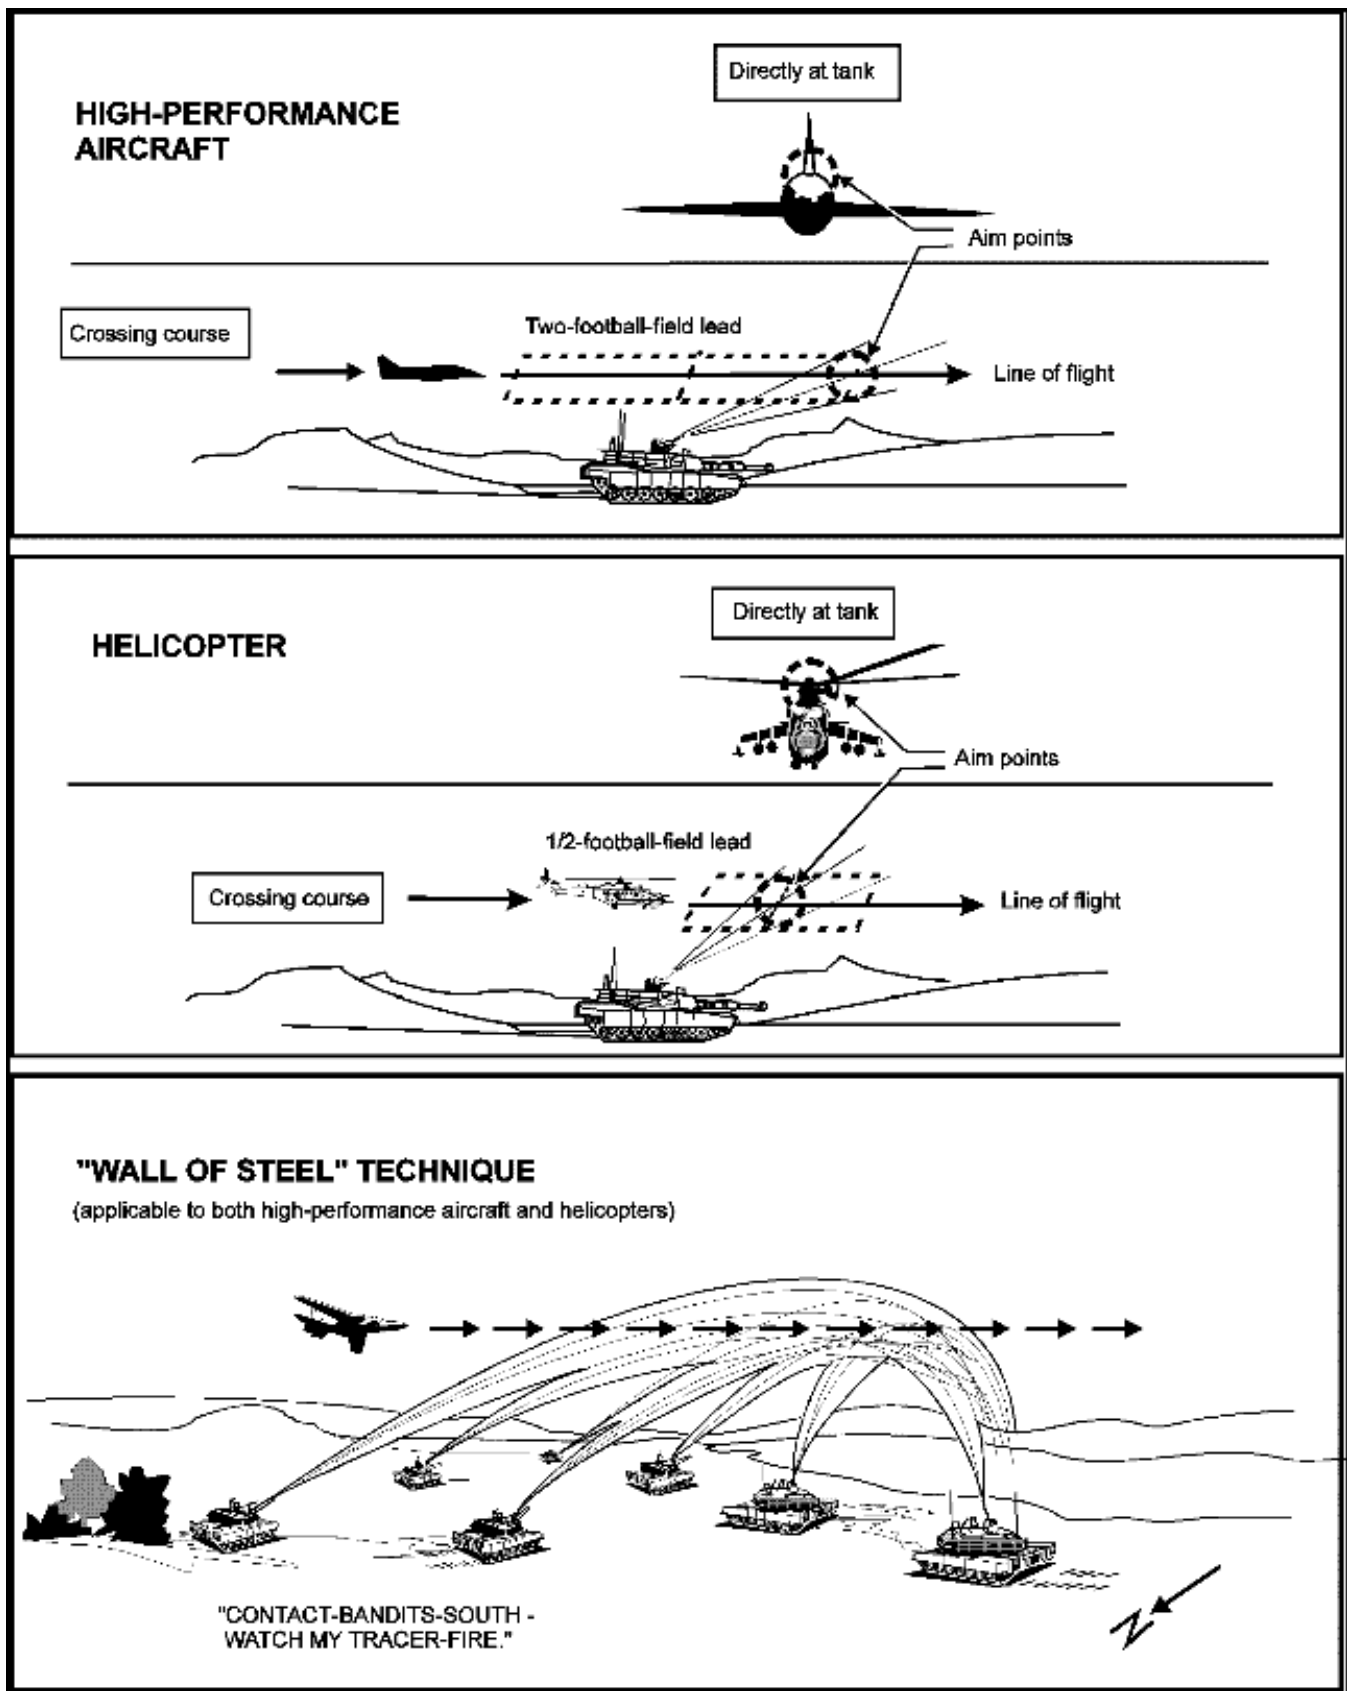

Figure 6-4. Machine gun aim points against helicopters and high-performance aircraft.
- **Step 1 - Initiate fires.** The primary intent is to force aircraft to take self-defense measures that alter their attack profile and reduce their effectiveness. Leaders may use a tracer burst to designate an aim point for machine gun anti-aircraft fires (see Figure 6-4). Volume is the key to effectiveness; tanks and BFVs throw up a "wall of steel" through which aircraft must fly. Effective in company team air defense employment are the tank main gun and TOW and Javelin missiles against hovering attack helicopters, the tank main gun and BFV 25-mm cannon against moving helicopters, and the tank main gun MPAT round against high-performance aircraft.